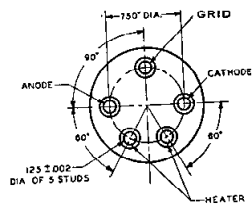

FIG. 2
**Mounting**—This vacuum tube employs a standard five-pin thrust type base suitable for use in a Western Electric 141A or similar socket. The arrangement of electrode connections to the base terminals is shown in Figure 2.